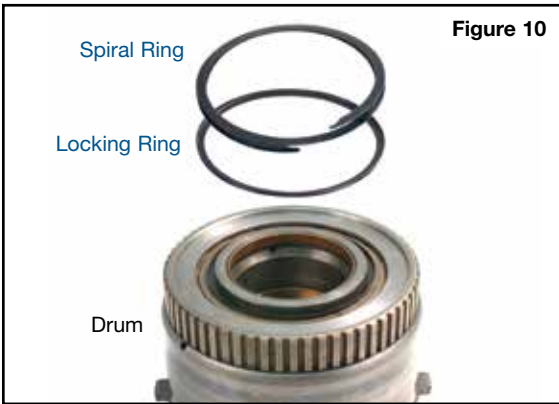

Figure 10
a. Install the locking ring, cup side facing up as shown in (Figure 10).